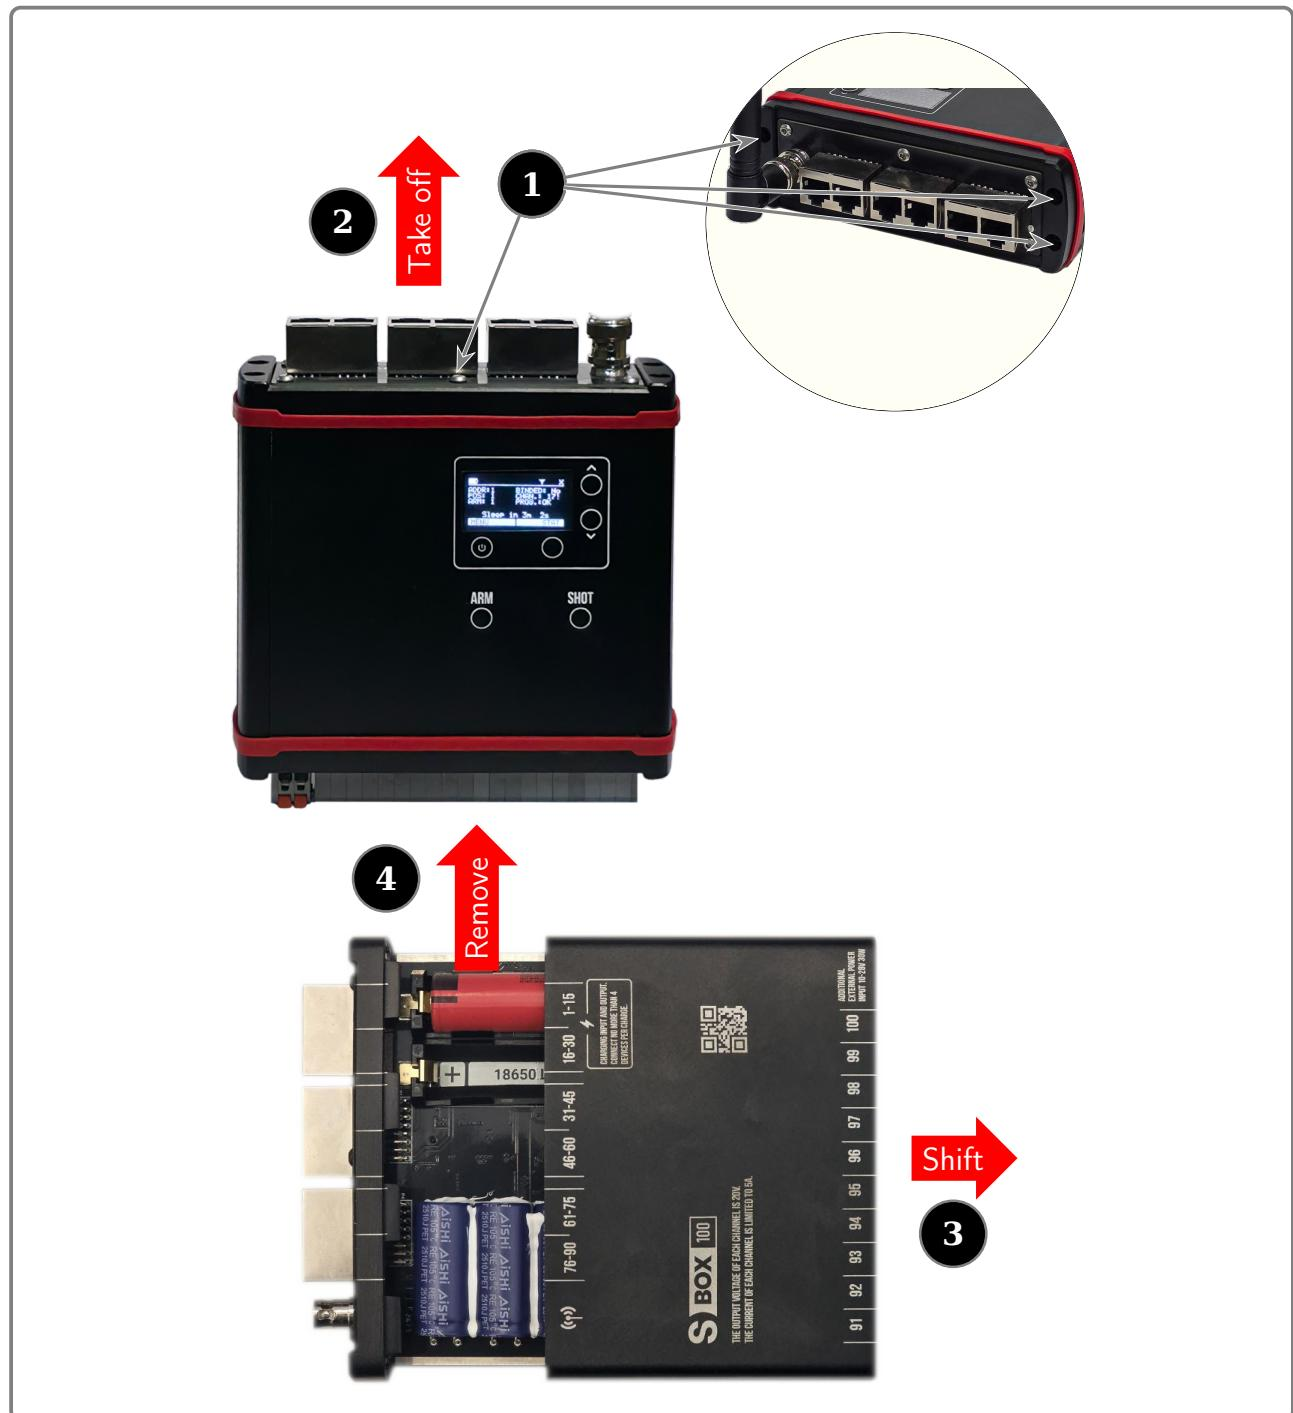

Figure 20: Removing the battery
- 1** — unscrew the 4 screws located on the top end of the device housing in the housing recess using a 2mm hex key. (see fig. 20 on the next page)